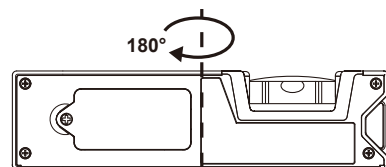

FIG. 2
d. In the same location, rotate the equipment 180°(see the following FIG. 2), then press the button, "CAL 2" flashes several times. After the "CAL 2" disappears, the calibration is completed and then the LCD will show the current angle in high-accuracy-display.